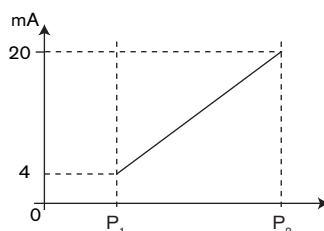

Fig. 90: 4...20 mA current depending on the PV selected
**4 mA:** Choose the value of the process input previously selected, associated with a current of 4 mA, for each current output. See Fig. 90.
**20 mA:** Choose the value of the process input previously selected, associated with a current of 20 mA, for each current output. See Fig. 90.